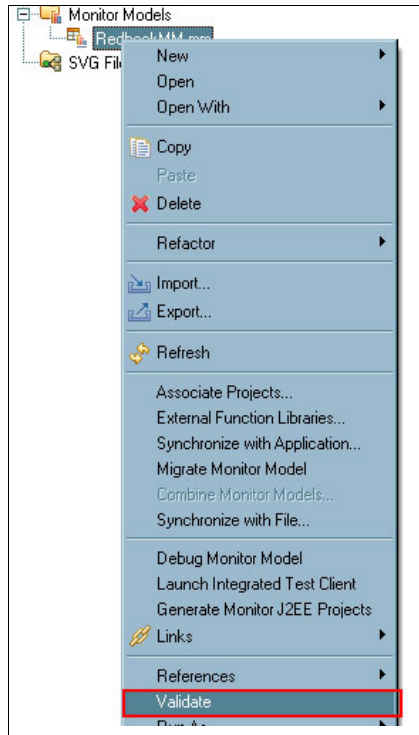

Figure 8-76 Validate monitor model
21.Right-click the monitor model in the Project Explorer pane and select **Validate**. See Figure 8-76 on page 278.